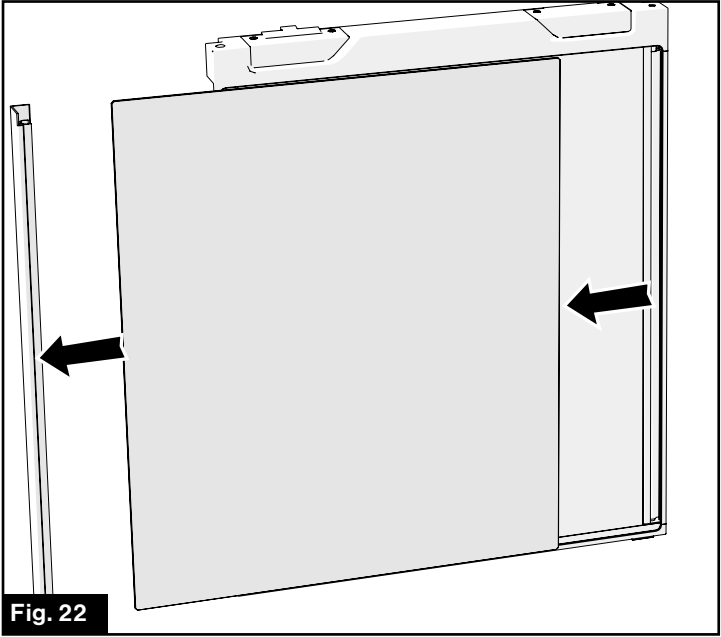

Fig. 22
1. Pull out the Side Cover. (Fig. 22)